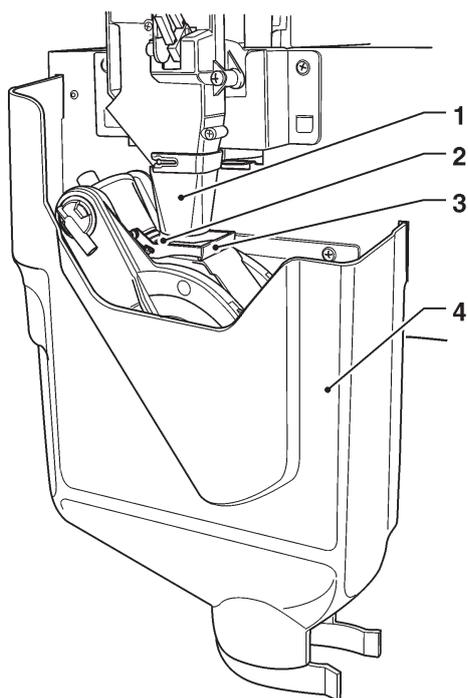

Fig. 12
It is recommended to disassemble the brewing unit cover and the coffee funnel at regular intervals (see fig. 12).
**It is absolutely necessary to reassemble the cover before setting the machine at work (see figure 12).**